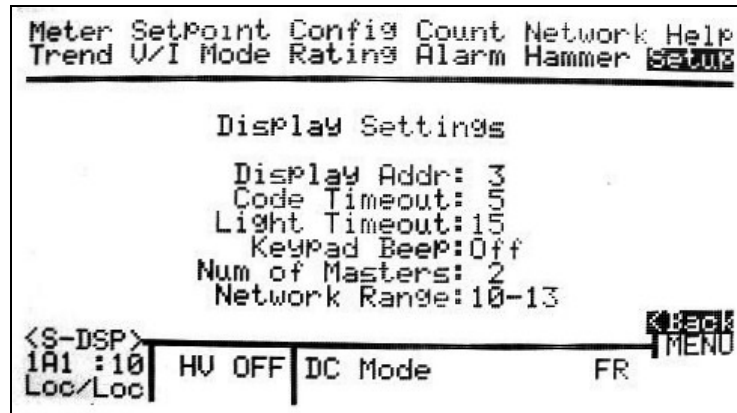

Figure 1-5
1. Use the <Arrow> keys to navigate to the **Display Settings** option on the **Setup** screen, then press <Enter>. See fig. 1-5